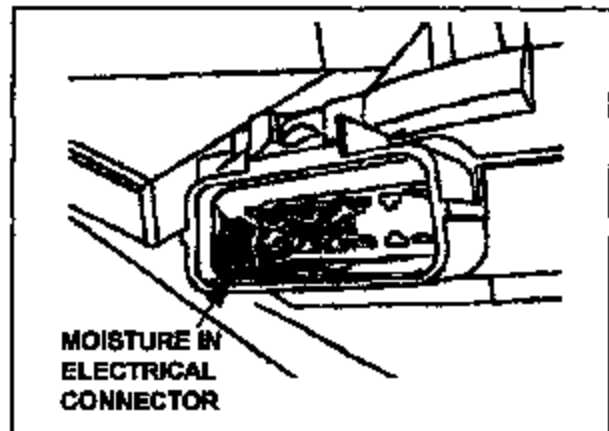

Figure 4
16. Inspect the inside of the electrical connector on the wiper motor for moisture or water. If no moisture or water is found, continue inspecting for evidence or signs that moisture or water was present at some earlier time. Indicators include water stains, dried dirt, etc (see figure 4).